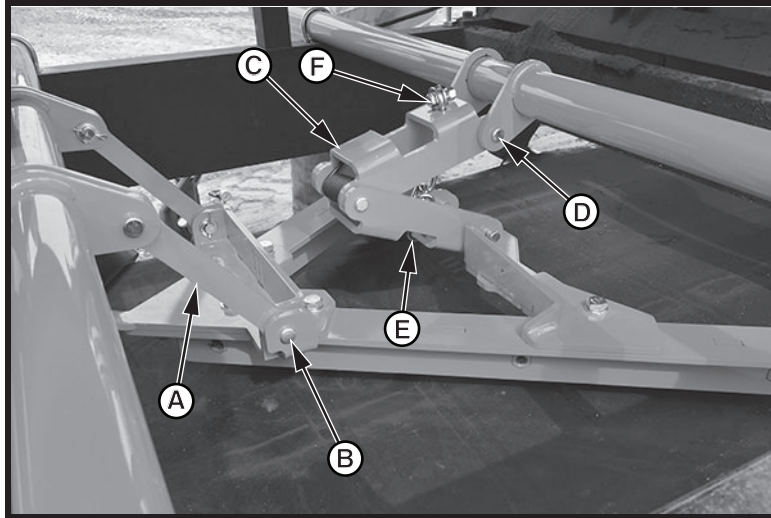

Figure 5. Installing V-Plow on Hanger Bars
- b. If the stringers are too high or too low to accommodate the hanger bars in the proper position, adapter plates can be mounted to the stringer. See Figure 5.